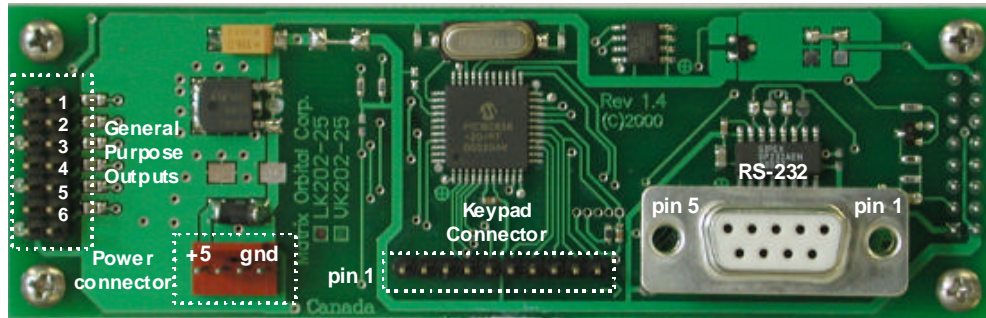

Figure 2-1 Electrical Connections
1. Refer to the diagram above and Figure 2-1 for the following steps.
Power is applied via pins 1 and 4 as shown in Figure 2-1. Power requirement is +5 VDC \pm 0.25V. Power may also be supplied via the RS-232 connector as described in the next section.